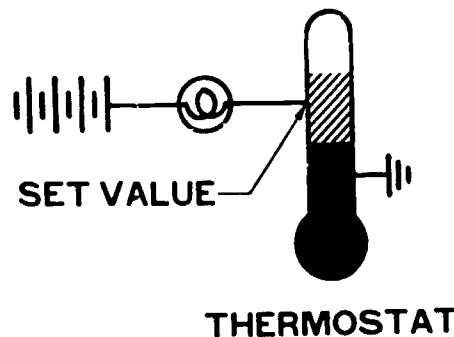

Figure 9.
Figure 9 shows a mercury thermostat that controls a light bulb. In this simple circuit, when the temperature is below some set value, the light will be off. Then as the temperature goes past the set value, the light will come on, because current will flow from ground, through the mercury in the thermostat, through the lamp and to the power source. This completes the circuit and turns on the light.
3. In the basic circuit illustrated in figure 9, an increase in temperature will turn the light _____ (on/off).